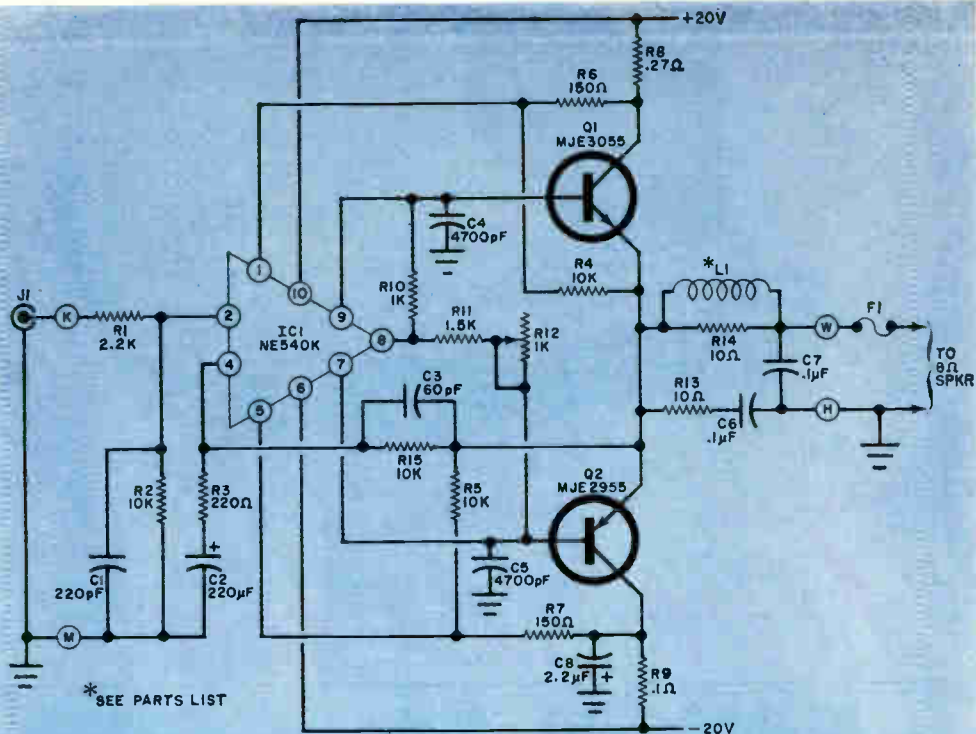

Fig. 1. Having an input impedance of about 10,000 ohms, a single IC is capable of driving two power transistors to full output, requiring about 400 mV input.
**Theory of Circuit Design.** The schematic diagram of the 540 Amplifier is shown in Fig. 1. A block diagram showing principles of operation is shown in Fig. 2. The first stage in the IC is a differential amplifier having its own constant current source. Next is a pair of common-base amplifiers that presents a low